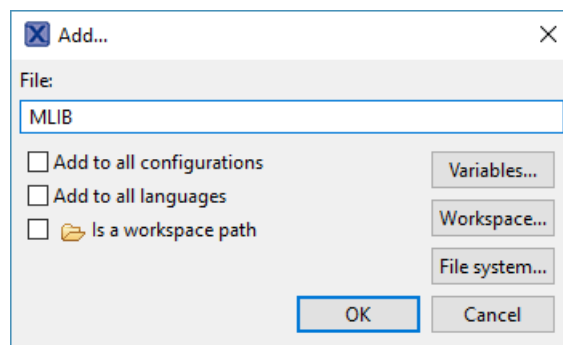

Figure 1-8. Library file inclusion
17. Type the following into the File text box (see Figure 1-8): :mllib.a